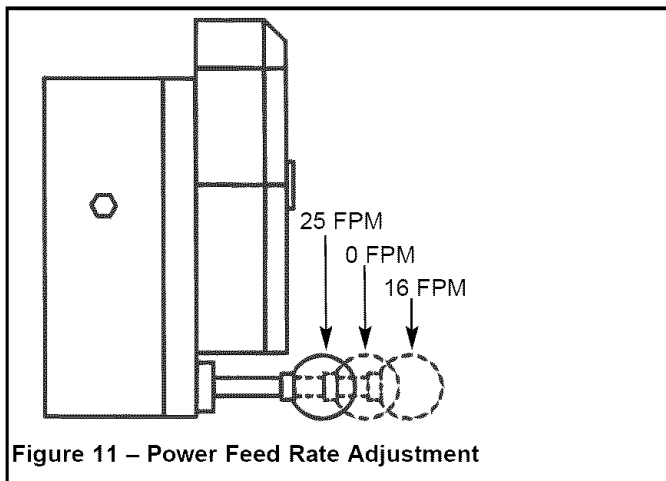

Figure 11 – Power Feed Rate Adjustment
- To engage power feed at low speed (16 FPM), pull engagement knob out away from planer (See Figure 11).
- To engage high speed (25 FPM), push engagement knob in all the way, towards planer (See Figure 11).
- The power feed system can be disengaged by placing the engagement knob in the middle or neutral position (See Figure 11).